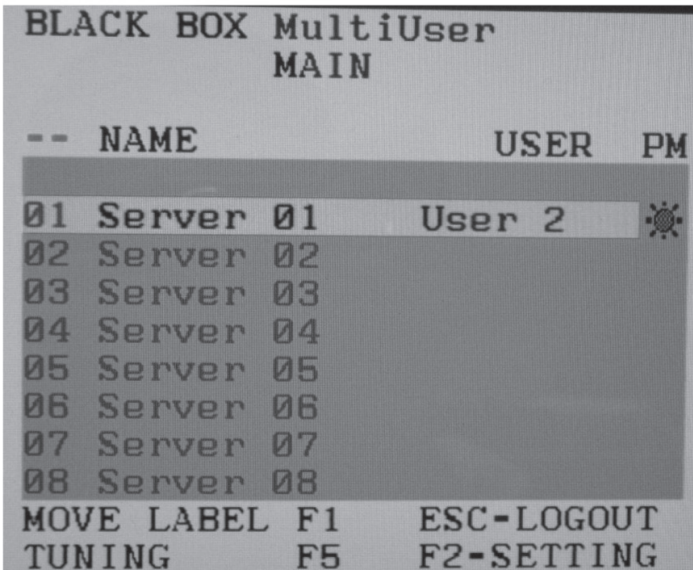

Figure 5-1. Main menu.
1. From the local keyboard, press left Shift twice. The OSD Main window appears. See Figure 5-1.